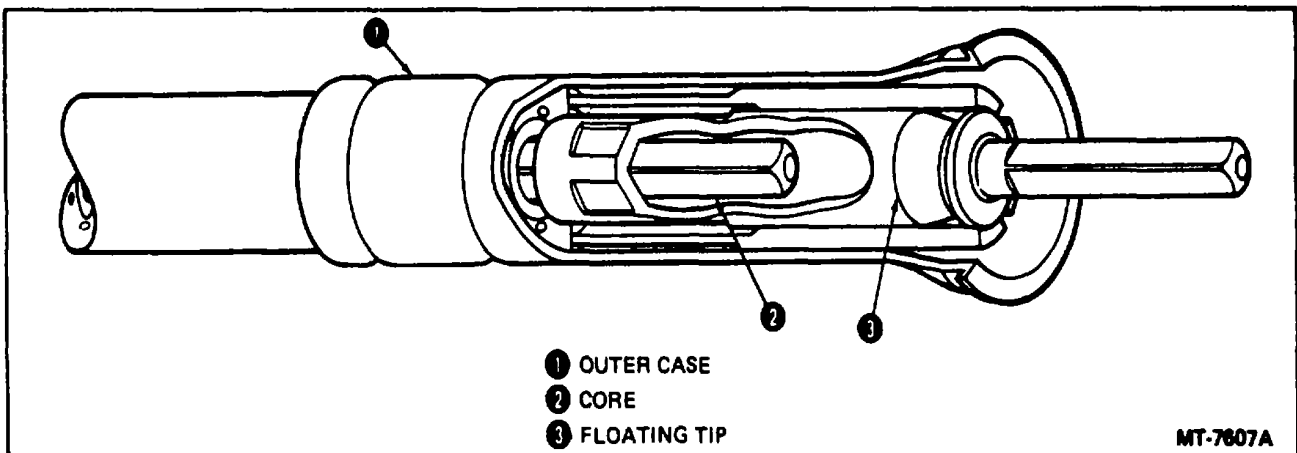

Figure 14 - Semi-Rigid Cable End Details
- (1) An outer case assembly with nut and ferrule at lower end and a quick-disconnect ferrule at upper end.
- (2) A wire-wound flexible inner core assembly with squared drive at upper end and floating tip (Figure 14) at lower end.